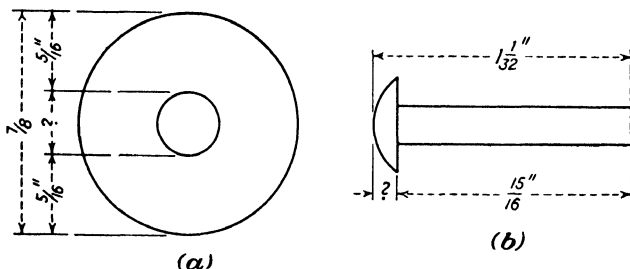

Fig. 25.
2. Find the missing dimensions in Fig. 25.